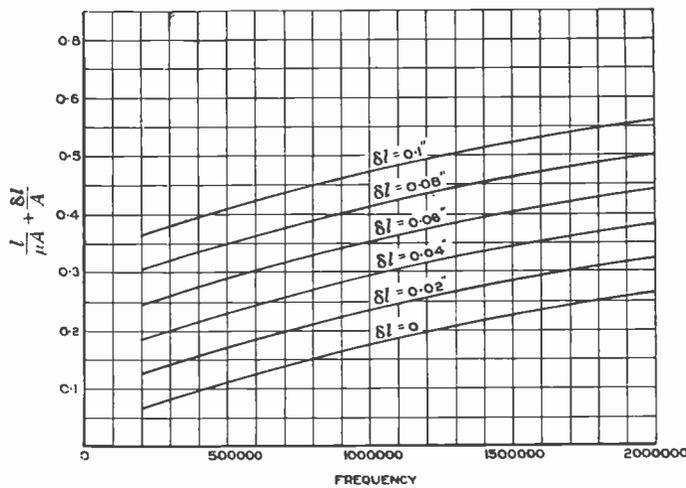

Fig. 18.
found in the expressions (17) and (18) for inductance is plotted in Fig. 18 for different frequencies and values of air gap  $\delta l$ . With the help of these charts the inductance of a winding may be readily computed for any set of conditions relative to air gap, turns, and frequency from the formula
$$J = \frac{l}{\mu A} + \frac{\delta l}{A} \quad \text{reading from Fig. 18}$$